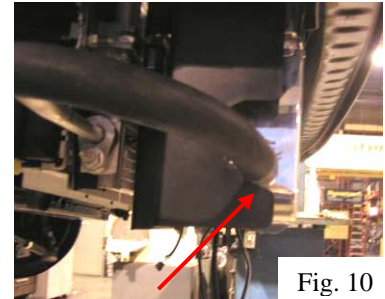

Fig. 10
- 30) Reinstall the plastic grille mount and radiator duct. The plastic duct will have to be trimmed slightly to allow room for the lower tube (Fig. 10).